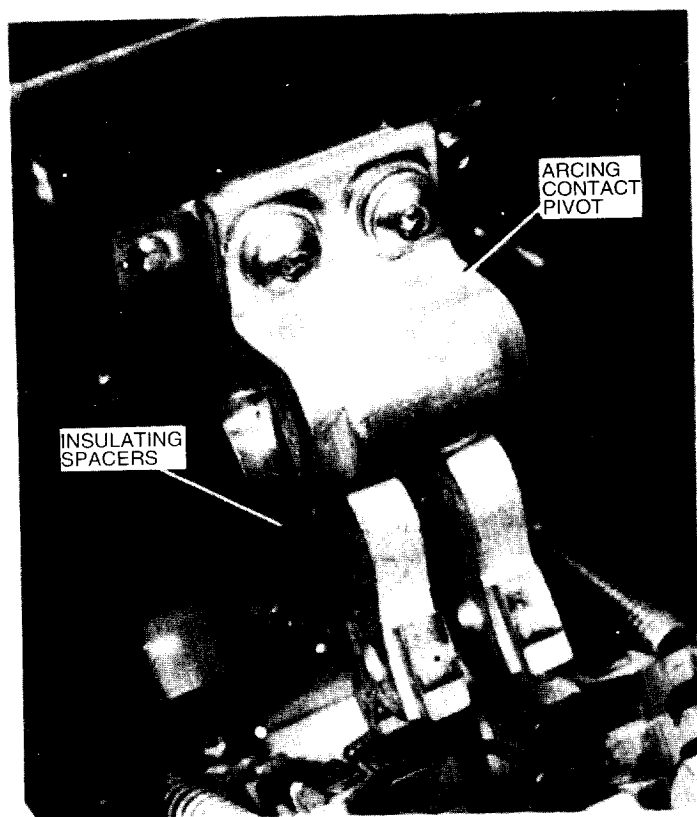

FIG. 50B — ARC RUNNER REMOVED
2. Remove the Arcing contact pivot. Clean off the existing lubrication found on the pivot area. Replace with D50HD38 (MOBIL 28), see Fig. 50B.